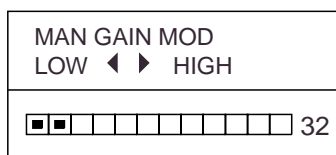

Figure 1-6 Dialogue for manual adjustment of gain
2. Press the [GAIN] key once or twice to display the screen shown in Figure 1-6.